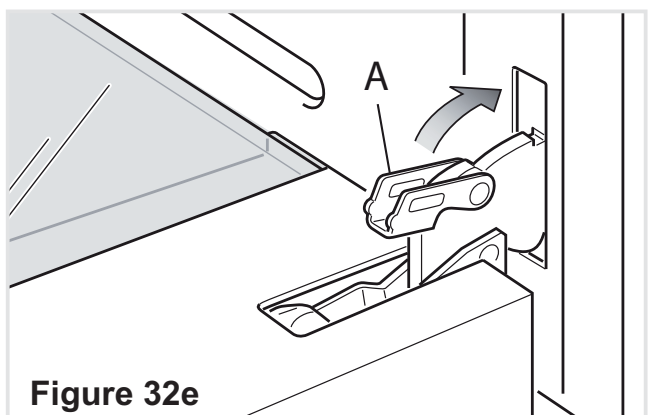

Figure 32e
- Unlock the oven door by opening it completely and closing the lever “A” on the left and right hinges (Fig. 32e).